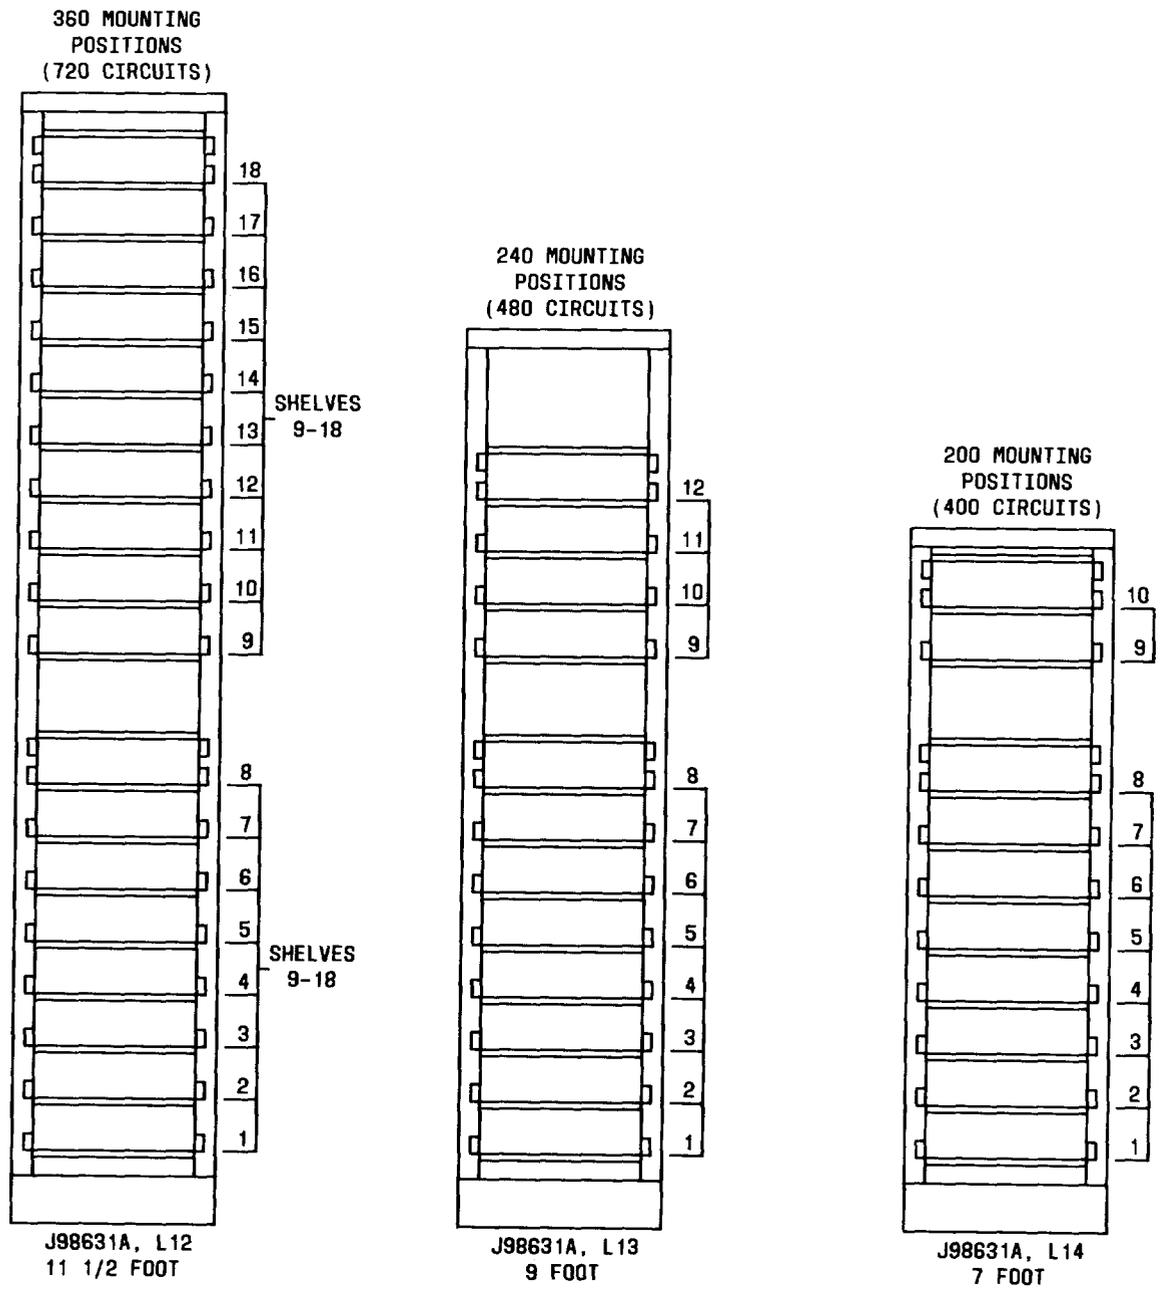

Fig. 1—Mini-REG Frames
**2.04** The J98631A, List 12 frame is equipped with 18 mounting shelves, and each shelf has 20 plug-in positions. This is a bay total of 360 plug-in positions or 720 range extension circuits. The J98631A, List 13 is equipped with 12 mounting shelves and has a bay total of 240 plug-in positions or 480 range extension circuits. The J98631A, List 14 is equipped with 10 mounting shelves and has a total of 200 plug-in positions or 400 range extension circuits. The Mini-REG frames are shown in Fig. 1.